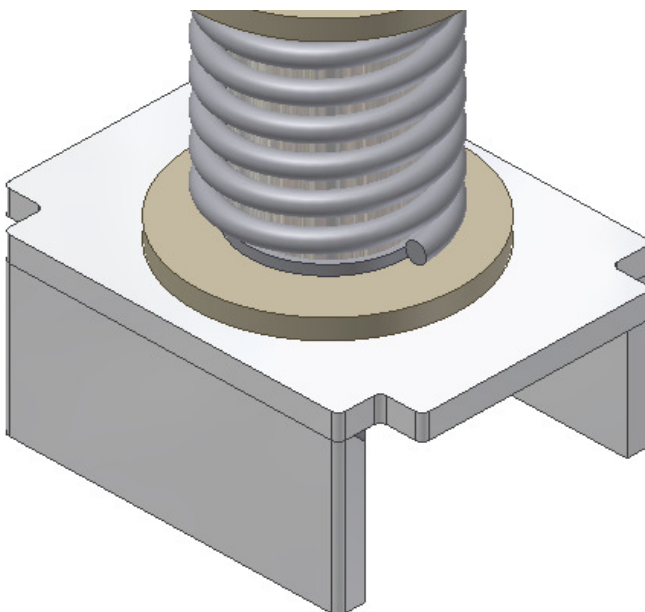

Figure Step 3
Step 3 Extrude the sketch. Insert 3 mm fillets and then array or mirror it to match the figure. (Figure Step 3)